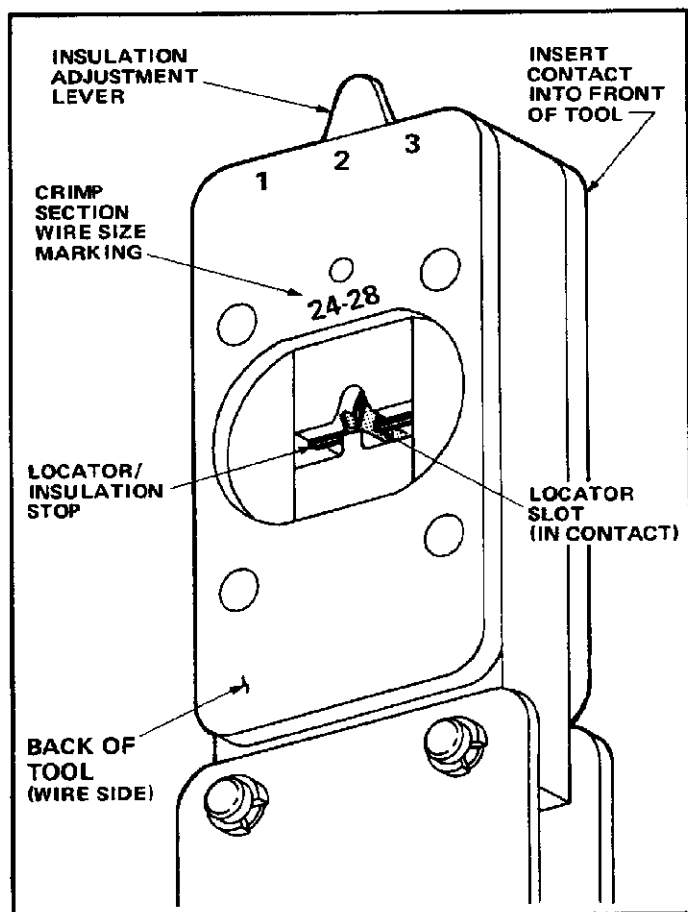

FIGURE I-3
1. Hold the tool so the BACK (Wire Side) is facing you. See Figure I-3.
3. Looking straight into the BACK of the crimp section, insert the contact (insulation barrel first) into the FRONT of the crimp section. Position the contact in the crimpers so that the locator enters the locator slot (see Figure I-3).